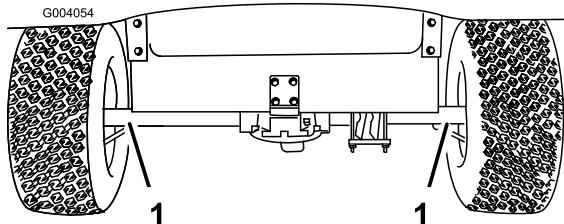
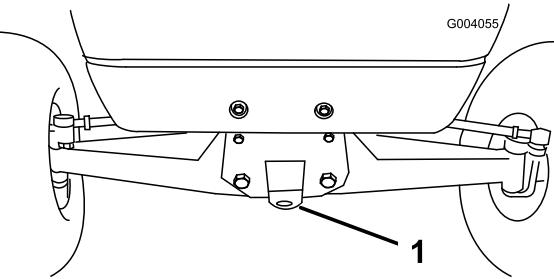

Figure 16
Figure 17
For moving the vehicle long distances, a trailer should be used. Make sure that the vehicle is secured to the trailer. Refer to Figure 16 and Figure 17 for the location of the tie-down points.
2. Affix a tow line to the tongue on the front of the frame (Figure 17).